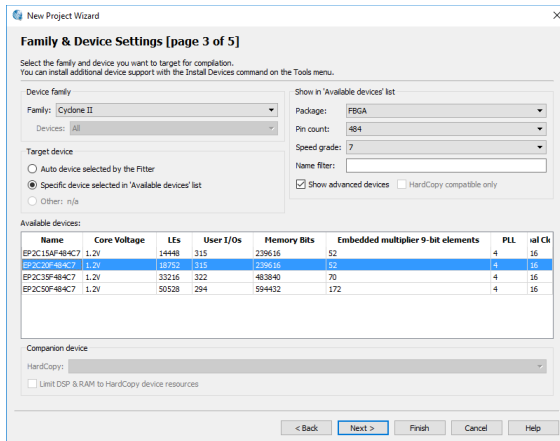
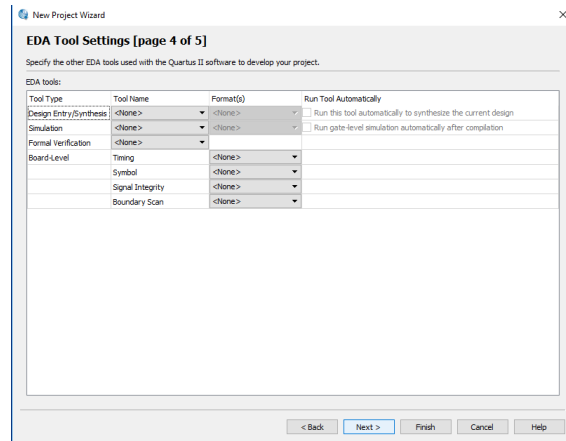

Figure 9. New Project Wizard - page 3
Figure 10. New Project Wizard - page 4
Click **Next** to move to page 3 of the New Project Wizard (Figure 9). Select **Cyclone II** family with the correct package (FBGA), pin count (484), and speed grade (7). Select the **EP2C20F484C7** device and click **Next** to page 4 of the New Project Wizard (Figure 10).